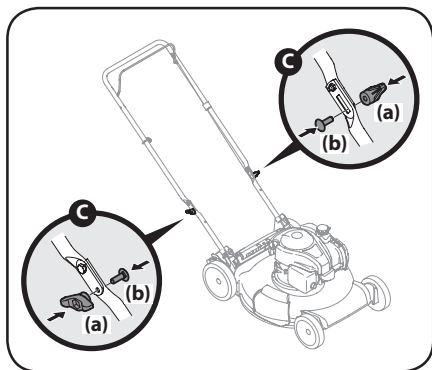

Figure 2-5
- c. Reattach wing knobs (a) and carriage bolts (b) removed in Step 2 into lower holes of handle as shown in Figure 2-5.